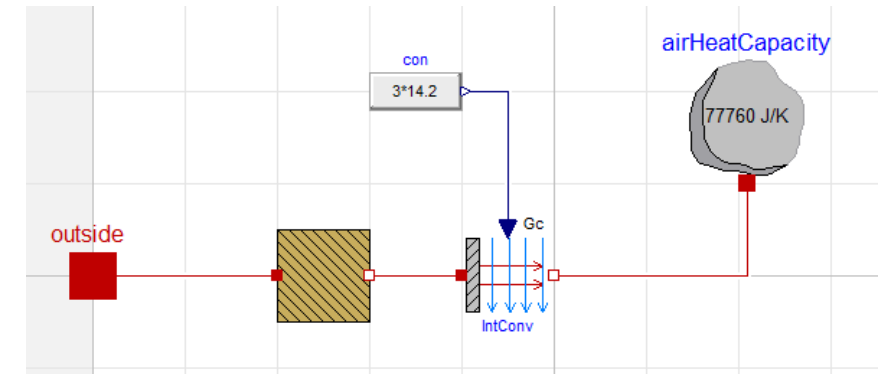

Figure 6.3: Connections in **HouseWall**
- `SimpleHouse.Components.Wall` (1)
- `Modelica.Thermal.HeatTransfer.Components.HeatCapacitor` (1)
- `Modelica.Thermal.HeatTransfer.Interfaces.HeatPort_a` (1)
- `Modelica.Thermal.HeatTransfer.Components.Convection` (1)
- `Modelica.Blocks.Sources.RealExpression` (1)
5. Connect the components according to figure 6.3 and give values to convection coefficient and heat capacitor (how do you calculate the capacitance of the air volume?)